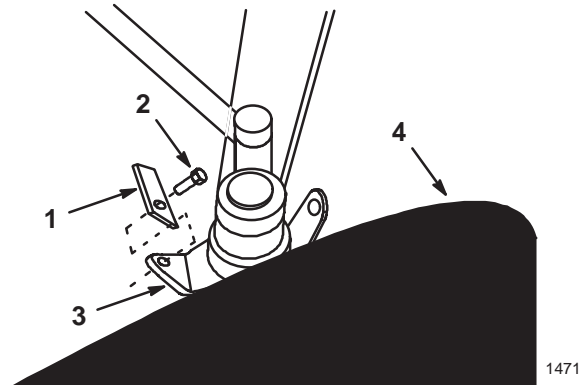

Figure 15
- Align a steering spindle stop in front of the rear tabs on each front wheel spindle so that the stops contact the axle during tight turns and prevent the wheels from contacting the blade frame (Fig. 15).
- Secure the stops with two 5/16 x 3/4 in. (19 mm) self tapping bolts (Fig. 15).